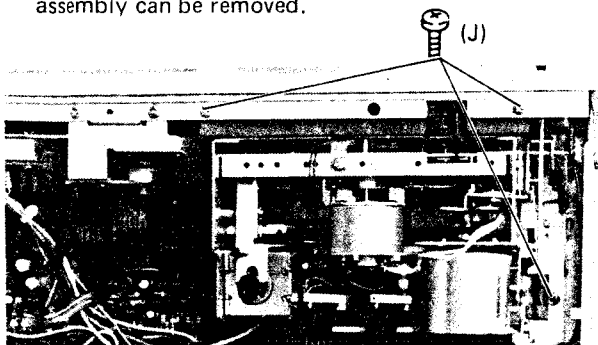

Figure 23
2. Remove six screws (J) and (K) (See Figure 23 and 24)
3. Remove the one leg (L) from the chassis then mechanism assembly can be removed.